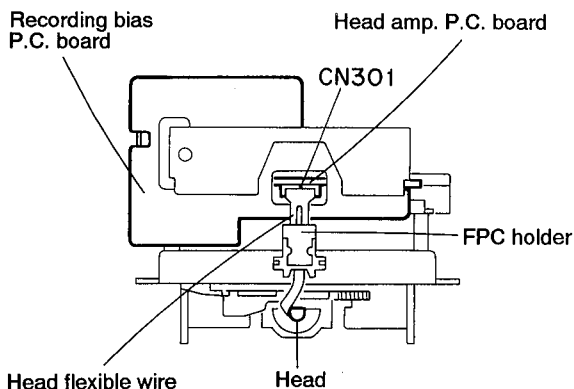

Fig. 5-13
(See Figs. 5-13 and 5-14)
2. After removing the FPC holder, disconnect the head flexible wire from the connector CN301 on head amp. P.C. board (See Fig. 5-13).